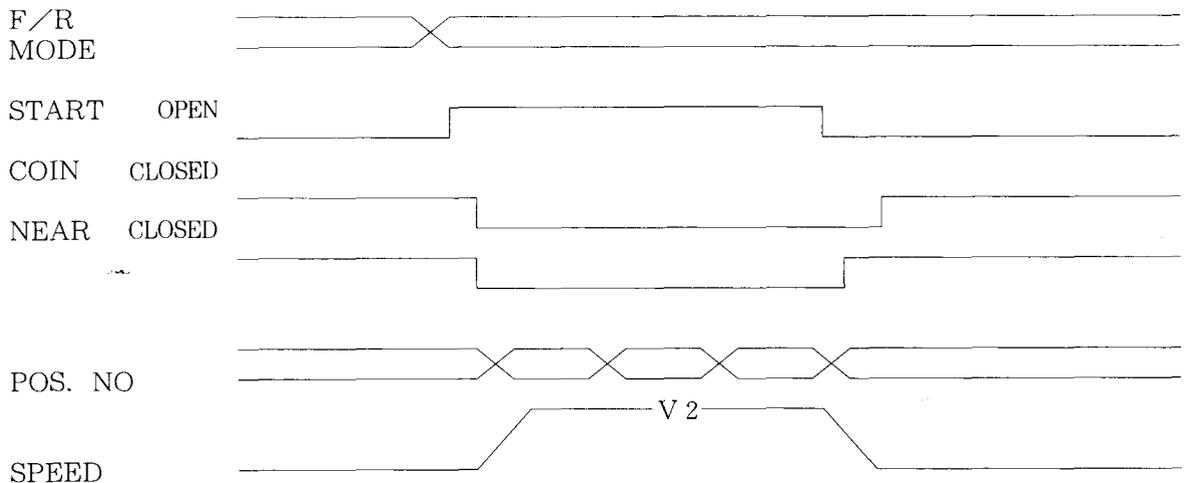

Fig. 4.11 Time Chart of Manual Operation
- Time Chart** Fig. 4.11 shows the time chart of manual operation.